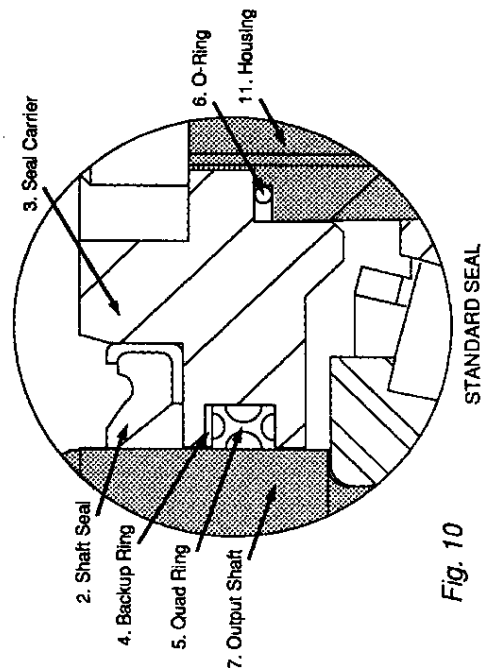

Fig. 10
23. Lubricate backup ring (4), quad ring (5) and 'O' ring (6). Insert backup ring (4) into groove of seal carrier. (Fig. 10) Place 'O' ring (6) on seal carrier pilot. (Fig. 8)
Press seal (2) into its counterbore in seal carrier. (Fig. 10) The open face of the seal should be up. This seal functions as a wiper only and is installed to keep contaminants out of the unit.